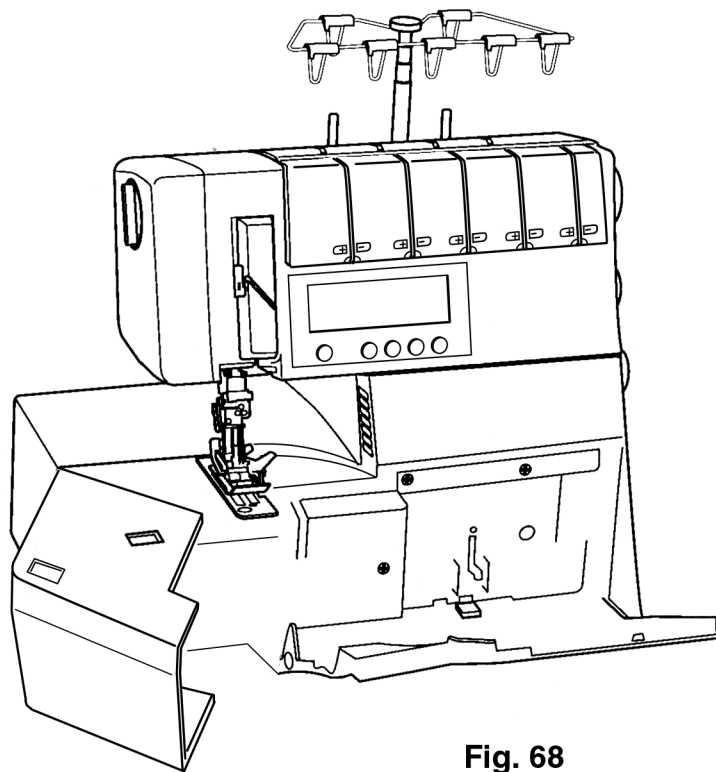

Fig. 68
- Open the looper cover or the swivel plate (fig. 68).